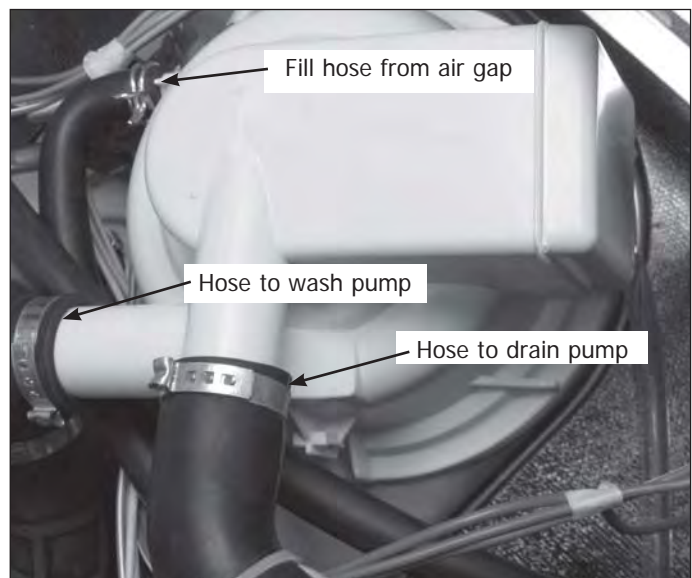

Figure 4-35.
8. Remove hoses from sump. The hose from the pressure switch, which is mounted to the air chamber of the sump, is easier to remove if it is pushed from the sump and not pulled off by the hose. (See Figure 4-35)